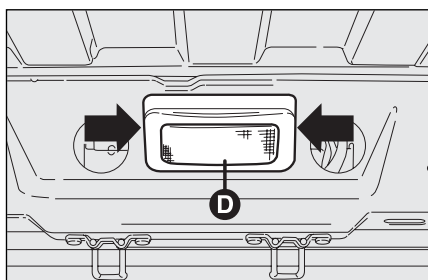
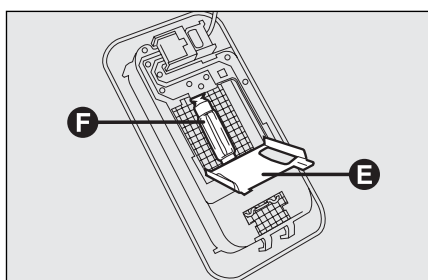

fig. 36
fig. 37
- ☐ work in the points shown by the arrows and remove light **D-fig. 36**;
- ☐ open the protection lid **E-fig. 37**;
- ☐ replace bulb **F-fig. 37** releasing it from the side contacts making sure that the new bulb is correctly clamped between the contacts;
- ☐ re-close the protection lid **E-fig. 37** and secure light **D-fig. 36** into its housing locking it properly.